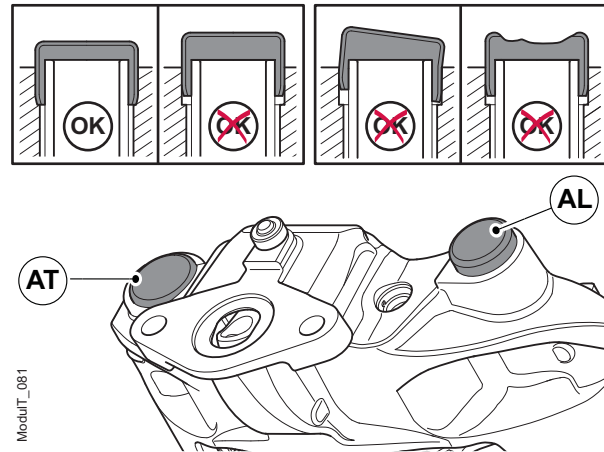

Figure 65. Correctly seating the protection cups
14. Ensure the protective cups are correctly seated and bottomed out, see figure 65.